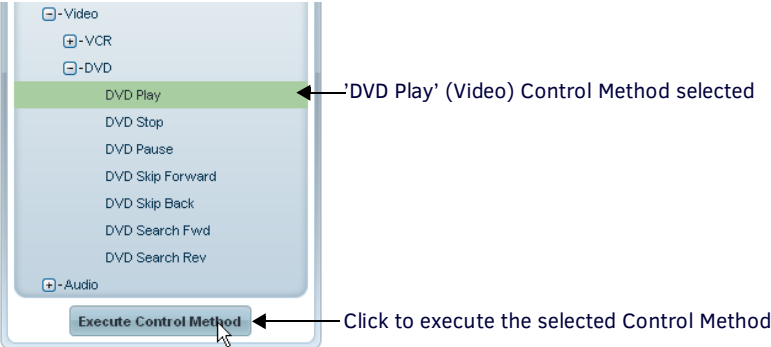

FIG. 123 Location Control Widget executing the 'DVD Play' Control for 'DVD'
- 4. Select a Control Method and click the **Execute Control Method** button (FIG. 123):